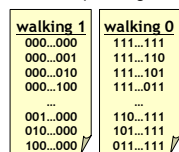

Figure 3. Walking 0/1 sequence
STEP1, Write the **unique data** (as shown in Figure 2) into **walking 1/0 address sequence** (as shown in Figure 3)